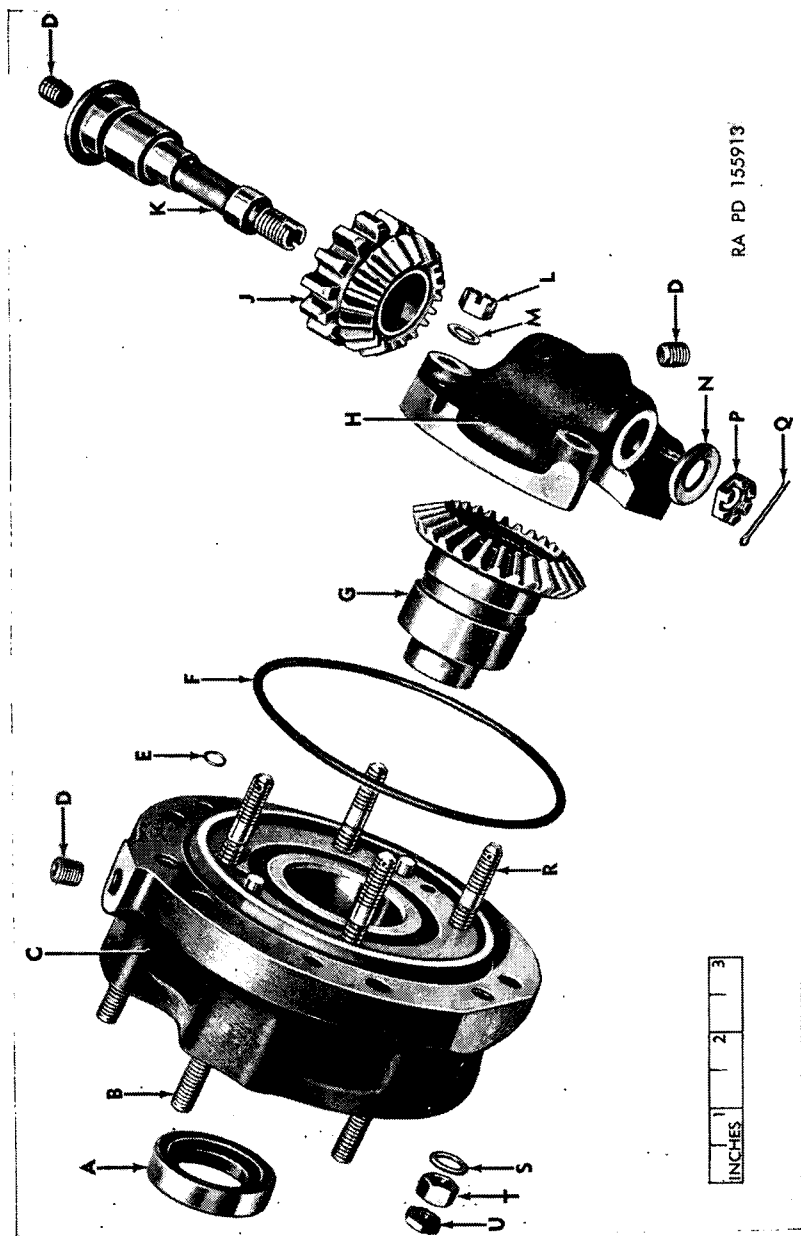

Figure 43. Generator drive assembly—exploded view.
- c. Generator Drive Assembly (fig. 43).
(1) Disassembly.
- (a) Remove the cotter pin, slotted nut, and plain washer from the generator-drive bevel and spur gear shaft (K). Tap the shaft gently with a soft hammer and remove the shaft and the generator-drive bevel and spur gear (J).